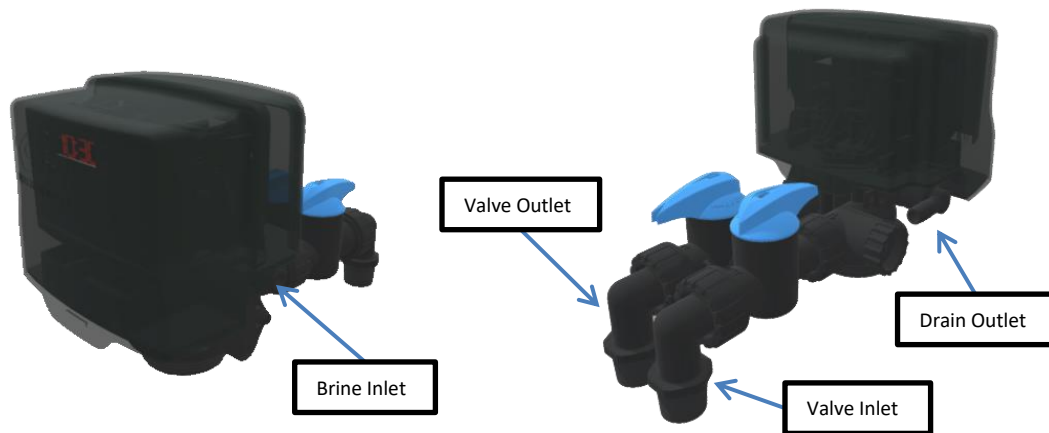

Figure 15: Control Valve Diagram
- A. Pipe or tube a line from the Control Valve Drain (Figure 15) to the drain.